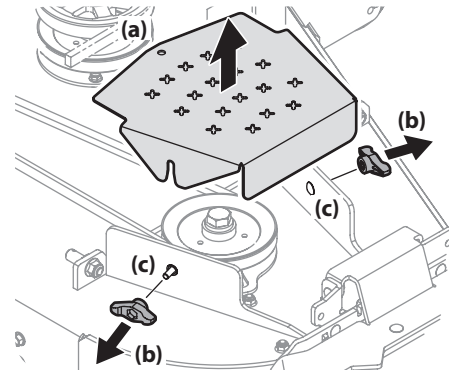

Figure 45
- To remove the belt covers (a), remove the wing knobs (b) from the carriage screws (c) securing it to the deck. See Figure 45.
- The speed nut should hold the carriage screw (c) and tab bolt in place, if not re-install as shown in Figure 45.